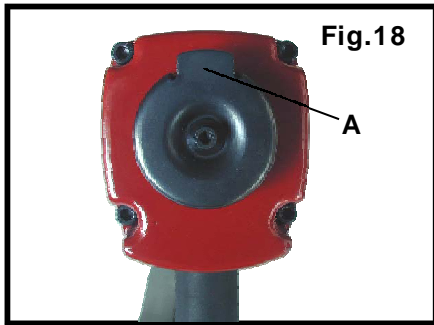

Fig.18
5. Adjust directional exhaust deflector (see Fig. 18 on following page), so that the exhaust air blast will be directed away from the operator. Grasp the deflector and rotate it to the desired position for the current application.